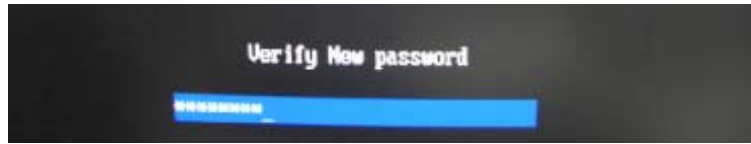

Figure 8-4: Verify New Password
Step 4: Verify the new password by entering again (Figure 8-4).